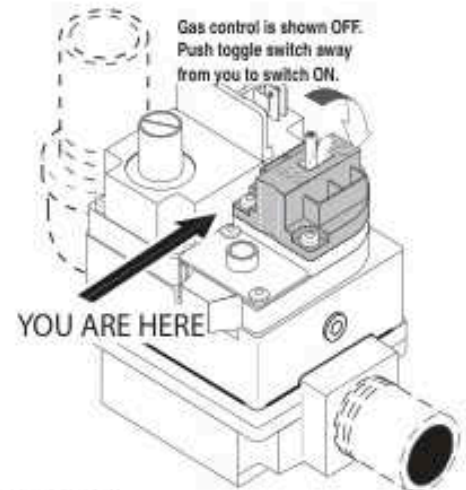

Figure 37.
6. **Toggle-Style Valve:** Pull toggle toward you to turn gas off, see Figure 37.
7. Wait five (5) minutes to clear out any gas. If you then smell gas, **STOP!** Follow "B" in the "Before Start-up" instructions (page 42). If you don't smell gas, go to the next step.
4. **Toggle-Style Valve:** Pull toggle toward you to turn gas off, see Figure 37.